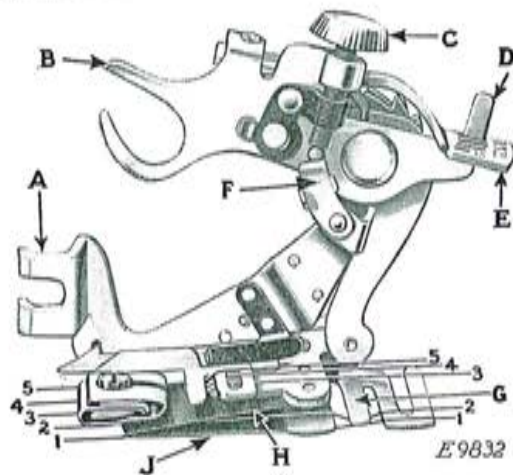
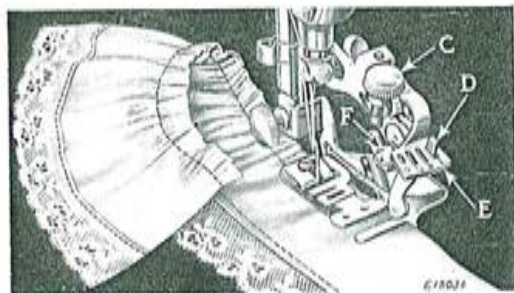
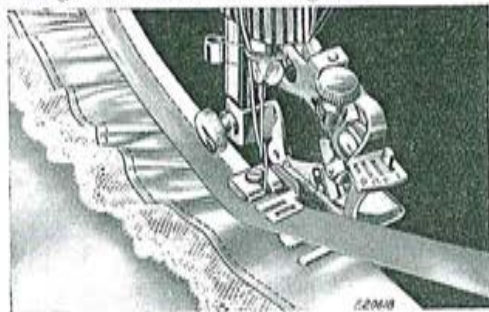
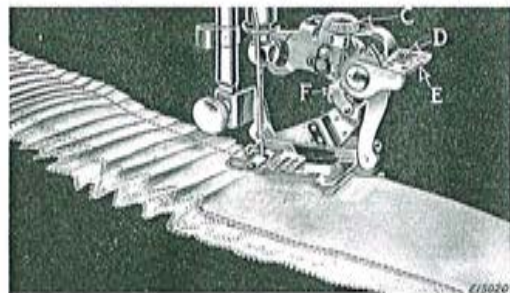

FIG. 50. THE RUFFLER AND ITS PARTS
FIG. 51
FIG. 53
FIG. 55
Lines 1, 2, 3, 4 and 5 shown in Fig. 50 indicate where the material is to be placed for various operations as follows:
Refer to Fig. 50 when inserting the material in the Ruffler.
(SEE REFERENCES IN FIG. 50)
Raise the needle bar to its highest position and remove the presser foot. Attach the ruffler foot (A, Fig. 50) to the presser bar by means of the thumb screw, at the same time placing the fork arm (B, Fig. 50) astride the needle clamp as shown in Fig. 51.
The adjusting finger (F, Fig. 51) is not intended for gathering and should be moved forward or away from the needle, as shown in Fig. 51.
Raise the adjusting lever (E, Fig. 51) and move it to the left so that the projection (D, Fig. 51) will enter the slot marked "1" in the adjusting lever (E) when the lever is released. The ruffling blade will then move forward and back once at every stitch. Insert the material to be ruffled between the two blue blades, following the line 2 in Fig. 50. Draw the material slightly back of the needle, lower the presser bar and commence to sew.
To make fine gathering, shorten the stroke of the ruffling blade by turning the adjusting screw (C, Fig. 51) upward; also shorten the stitch. To make full gathering, lengthen the stroke of the ruffling blade by turning the adjusting screw (C) downward; also lengthen the stitch. By varying these adjustments, many pleasing varieties of work can be accomplished.
2, in Fig. 50. Place the garment to which the ruffle is to be attached, under the separator blade, following the line 1, in Fig. 50. Proceed the same as for gathering.
Insert the material to be ruffled between the two blue blades, following the line 2, in Fig. 50. Place the garment to which the ruffle is to be attached, under the separator blade, following the line 1, in Fig. 50. Place the material in the facing over the upper blue blade, as shown in Fig. 53, following the line 3, in Fig. 50. The facing may be straight or bias material. If the facing is to be on the right side of the garment, place the garment and the
Insert the material to be ruffled between the two blue blades, following the line 2, in Fig. 50. This
The material for piping must measure about $\frac{1}{4}$ inch wide when folded in the center and is usually cut on the bias. Place the piping material in the Ruffler, following the line 4, in Fig. 50, with the folded edge of the piping to the right. The material to which the piping and ruffling are to be sewn should be folded on the edge and inserted in the Ruffler, following the line 5, in Fig. 50.
Raise the adjusting lever (E, Fig. 55) and move it to the right so that the projection (D, Fig. 55)
will enter the slot marked "6" in the adjusting lever when the lever is released. The ruffling blade will then move forward and back once at every six stitches. To adjust the ruffling blade to make a plait once at every twelve stitches, place the adjusting lever (E, Fig. 55) so that the projection (D) enters the slot marked "12" in the adjusting lever. Insert the material to be plaited between the two blue blades, following the line (2, Fig. 50). The size or width of plaits is regulated by the adjusting screw
(C, Fig. 55) and the adjusting finger (F, Fig. 55). To make a wider plait, move the adjusting finger (F) back or toward the needle and turn the adjusting screw (C) downward. To make a smaller plait, turn the adjusting screw (C) upward. The distance between plaits is regulated by the length of stitch.